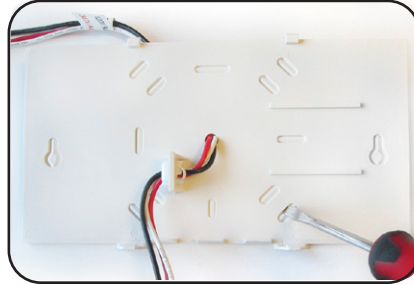

FIG. 2
3. Install the back plate on the wall. The unit is supplied with universal spider knockouts and keyhole slots stamped into the back of the cabinet. Unplug the quick connector, knock out the appropriate holes (Fig. 2) and install the back plate on the wall, over the junction box using appropriate screws and anchors (not supplied).
3. Installer la plaque arrière sur le mur (Fig. 2). L'unité offre des débouchures de distribution universelles et des fentes en trou de serrure estampées au dos du cabinet.